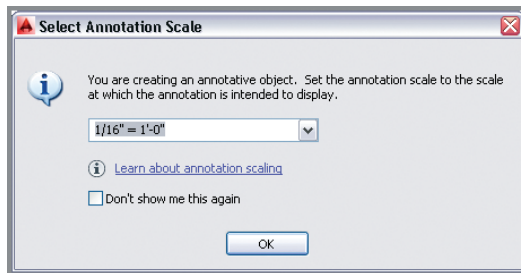

FIGURE 13.2 Selecting an annotation scale in modelspace
5.  Click the Multiline Text tool in the Annotate panel on the ribbon's Home tab. Select 1/16" = 1'-0" (or 1:200 for metric) from the drop-down menu in the Select Annotation Scale dialog box that appears (see Figure 13.2). Click OK.